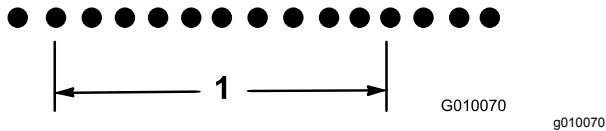

Figure 66
18.8 divided by 10 is 1.88, hole spacing is short by 0.12 inch from nominal (Figure 66).